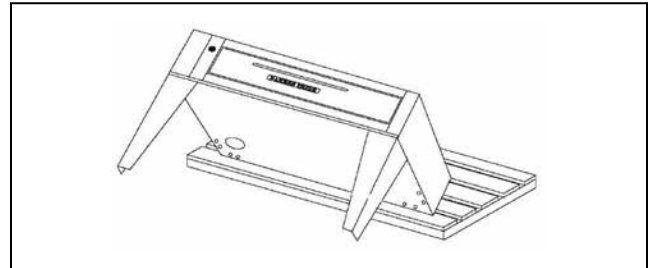

Figure 2
- Using sufficient help, tilt the oven forward and lower it down so that the two front legs come to rest on the floor. (See Fig.2)